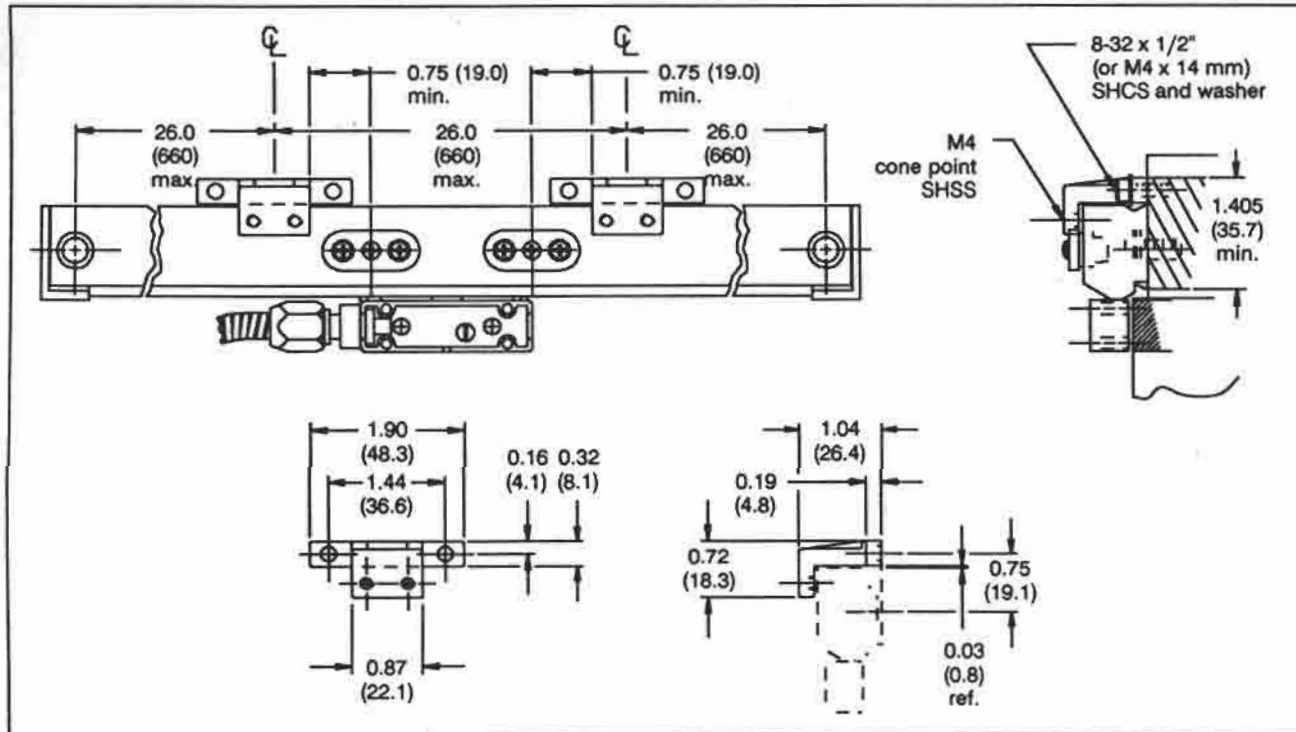

Figure 2-11. Mini-Scale and Mate System encoder mounting information for ACU-RITE center supports (24" to 60" encoders)
- The encoder is mounted using the end mounting holes and intermediate center supports or a backup spar. The correct number of ACU-RITE center supports are provided with Mini-Scale and MillMate encoders (Figure 2-11).
Refer to Figures 2-11 and 2-12 for center support mounting dimensions.
For ACU-RITE center supports, refer to Figure 2-11. Mount the encoder using both end mounting holes. Place a 0.02 to 0.04" (0.5 to 1.0 mm) shim on top of the encoder and place the center support on top of the shim. Hold the center support against the support mounting surface and transfer punch the two support mounting holes. Remove the support and encoder. Drill and tap two holes for 8-32 x 3/8" (or M4x0.7 x 10 mm) deep minimum. Re-install the encoder.